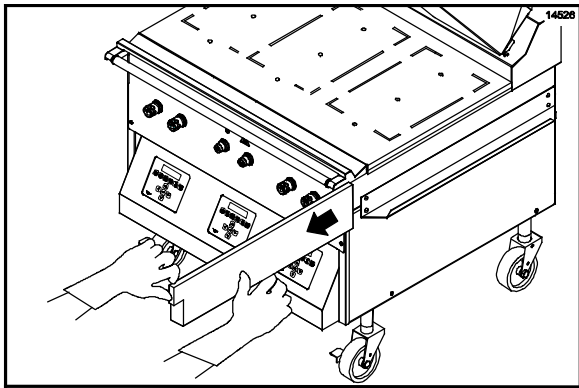

Figure 113
45. Remove and empty the grease pans. (See Figure 113.)